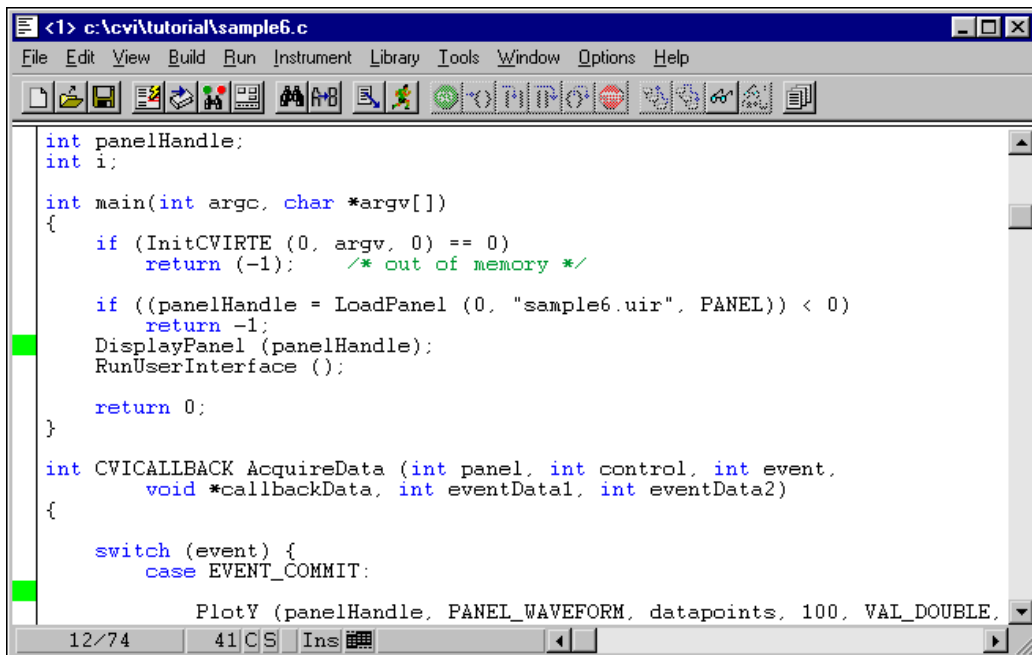

Figure 8-1. sample6.c Source File with Tags
4. Position the cursor on the tagged line in the middle of the main program, the DisplayPanel function, as shown in Figure 8-1. You can move to this line quickly in the source code by pressing <F2>, which moves your cursor to the first tag set in the file.